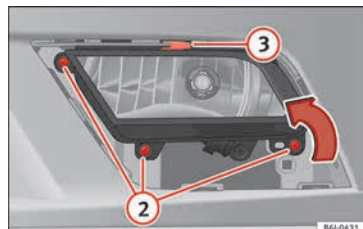

Fig. 96 Front fog light.
- Remove the bolts (3x) » Fig. 96 ② to remove the fog light.
- Remove the metal clip situated on the upper part of the fog light by pulling towards the exterior of the vehicle » Fig. 96 ③.